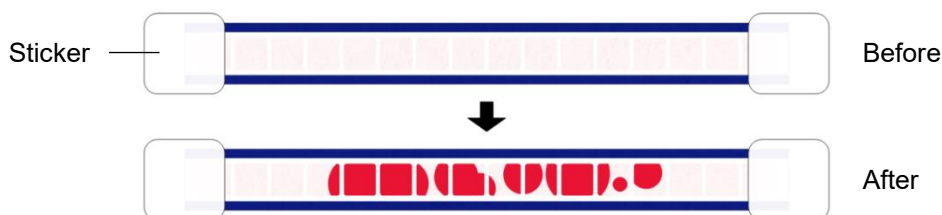

Figure 2. Image of tape installation
- (2) Use the attached stickers to apply to the tape. Fix both ends of the tape as shown in Figure 2.